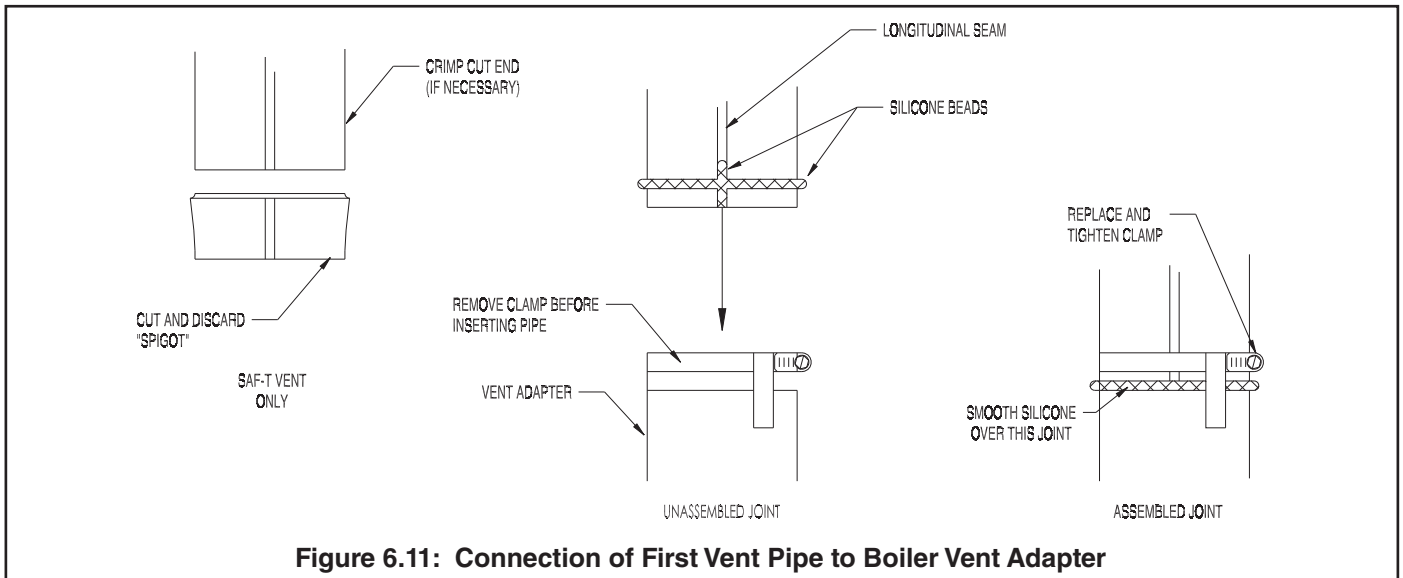

Figure 6.11: Connection of First Vent Pipe to Boiler Vent Adapter
- d. On the male end of the pipe, apply a ¼" wide bead of high temperature silicone approximately ½ inch from the male end of the pipe. Also apply a ¼" bead of silicone along the first 2 ½" of the longitudinal weld as shown in Figure 6.11.
- f. Apply an additional bead of silicone over the outside of the joint and smooth out (Fig 6.11). Also apply silicone over the seams in the vent adapter.